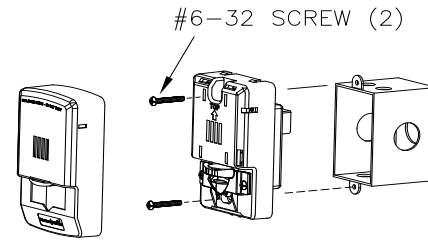

Figure 5: Installation
3. Install device as shown in Figure 5 to a single-gang backbox with the provided pan head screws.